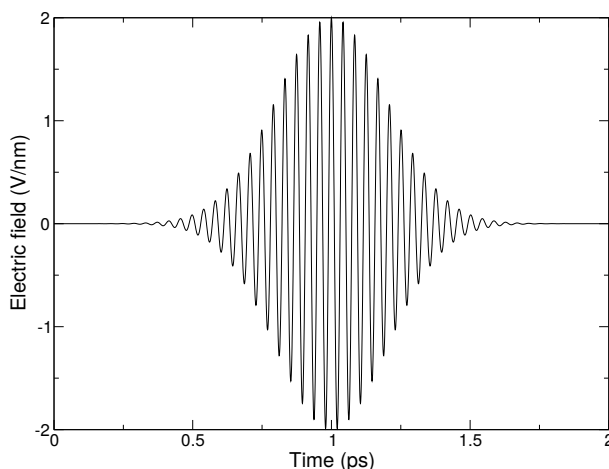

Fig. 5.48: A simulated laser pulse in GROMACS.
This simulated laser-pulse was applied to simulations of melting ice 146 (page 546). A pulsed electric field may look like Fig. 5.48. In the supporting information of that paper the impact of an applied electric field on a system under periodic boundary conditions is analyzed. It is described that the effective electric field under PBC is larger than the applied field, by a factor depending on the size of the box and the dielectric properties of molecules in the box. For a system with static dielectric properties this factor can be corrected for. But for a system where the dielectric varies over time, for example a membrane protein with a pore that opens and closes during the simulation, this way of applying an electric field is not useful. In such cases one can use the computational electrophysiology protocol described in the next section (sec. *Computational Electrophysiology* (page 488)).
yields an pulsed-oscillating electric field with  $E_0 = 2$  V/nm,  $\omega = 150$ /ps and  $t_0 = 5$  ps and  $\sigma = 1$  ps. Read more in ref. 146 (page 546). Note that the input file format is changed from the undocumented older version. A figure like Fig. 5.48 may be produced by passing the `-field` option to *gmx mdrun* (page 187).